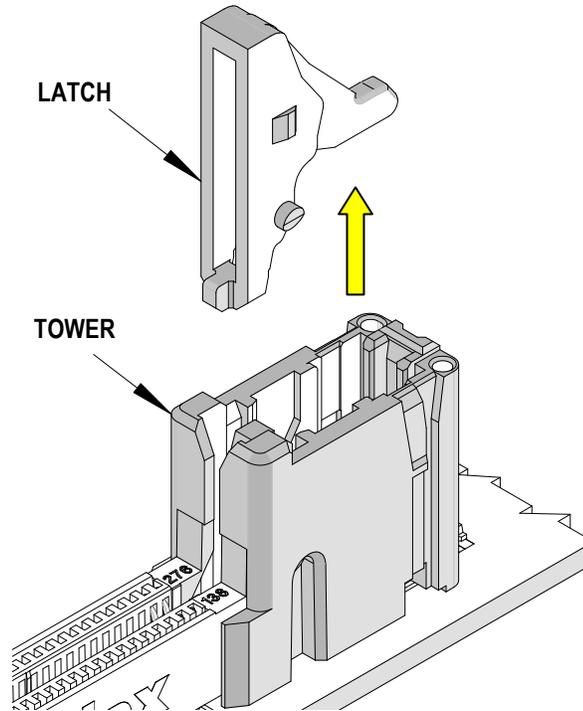

Figure 5
5. Remove the spreading tool from the tower. Finish pulling the latch out of the tower. See Figure 5.